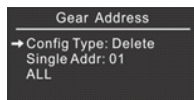

Figure 12
Switch the Config Type to "Delete" as shown in following Figure 12, short press up key △ or down key ▽ to select different operations.
--"Single Addr" is to modify a control gear address as shown in following Figure 12. Left side 02 is the address you would like to modify, right side 01 is the new address that you would like to modify to. When the cursor is moved to address number of the this operation item, short press plus key + or minus key — to select the address you would like to modify and then select the new address you would like to modify to, then short press confirm key ↵ to confirm the modification.